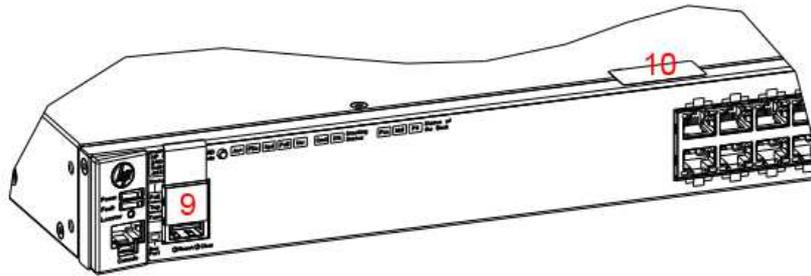
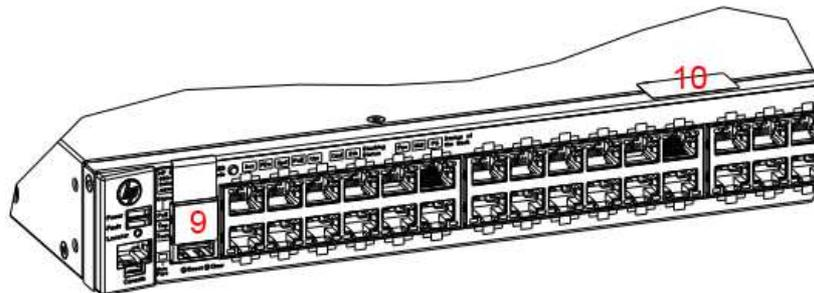

Figure 16 – OOBM and Top Panel Tamper-Evidence Label Placement (24-port Switch)
Figure 17 – OOBM and Top Panel Tamper-Evidence Label Placement (48-port Switch)
Two (2) Tamper-Evidence Labels will be used on the front of the module to secure the top panel of the module as well the OOBM port. Prior to placing any labels onto the front of the module, the CO shall check for and remove any clear security film that may remain covering the front of the module. To secure the OOBM port, place one label vertically over the port (label 9). To secure the top panel of the module, place one label horizontally at the top of the module (label 10); overlapping the top panel and the front of the module. Figure 16 shows proper placement of these labels onto a 24-port switch. Figure 17 shows proper placement of these labels onto a 48-port switch.